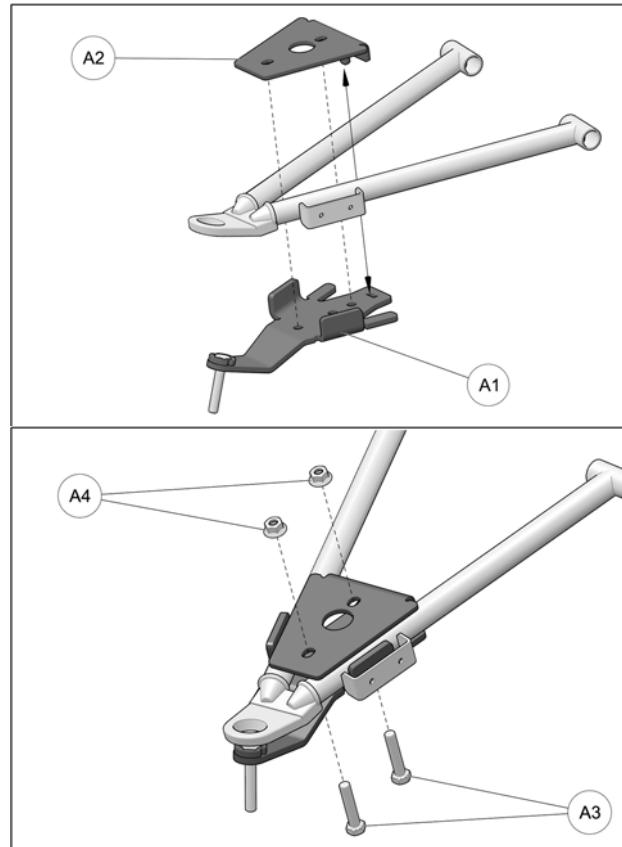

Fig. 17
5. Position bottom part of anchor bracket (**A1**) assembly under front lower suspension arm, as shown in the figure below. Position bracket cover (**A2**) over suspension arm and align holes in cover and bottom part. Insert M10x50mm bolts (**A3**) through top and secure the two parts together with nuts (**A4**) provided. Tighten assembly to 50 N•m [37 lb•ft] of torque. Refer to Fig. 17